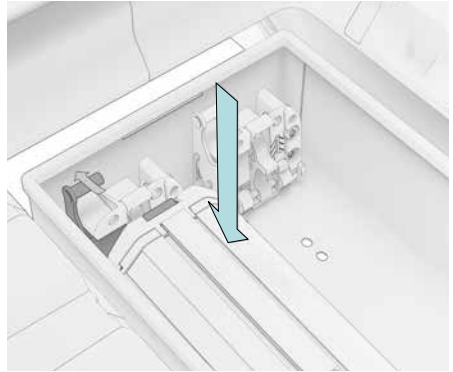

Fig. 16
2. Pull release lever 1 toward the rechargeable battery. Guide the rechargeable battery into the mount until it clicks in with an audible click (Fig. 16).